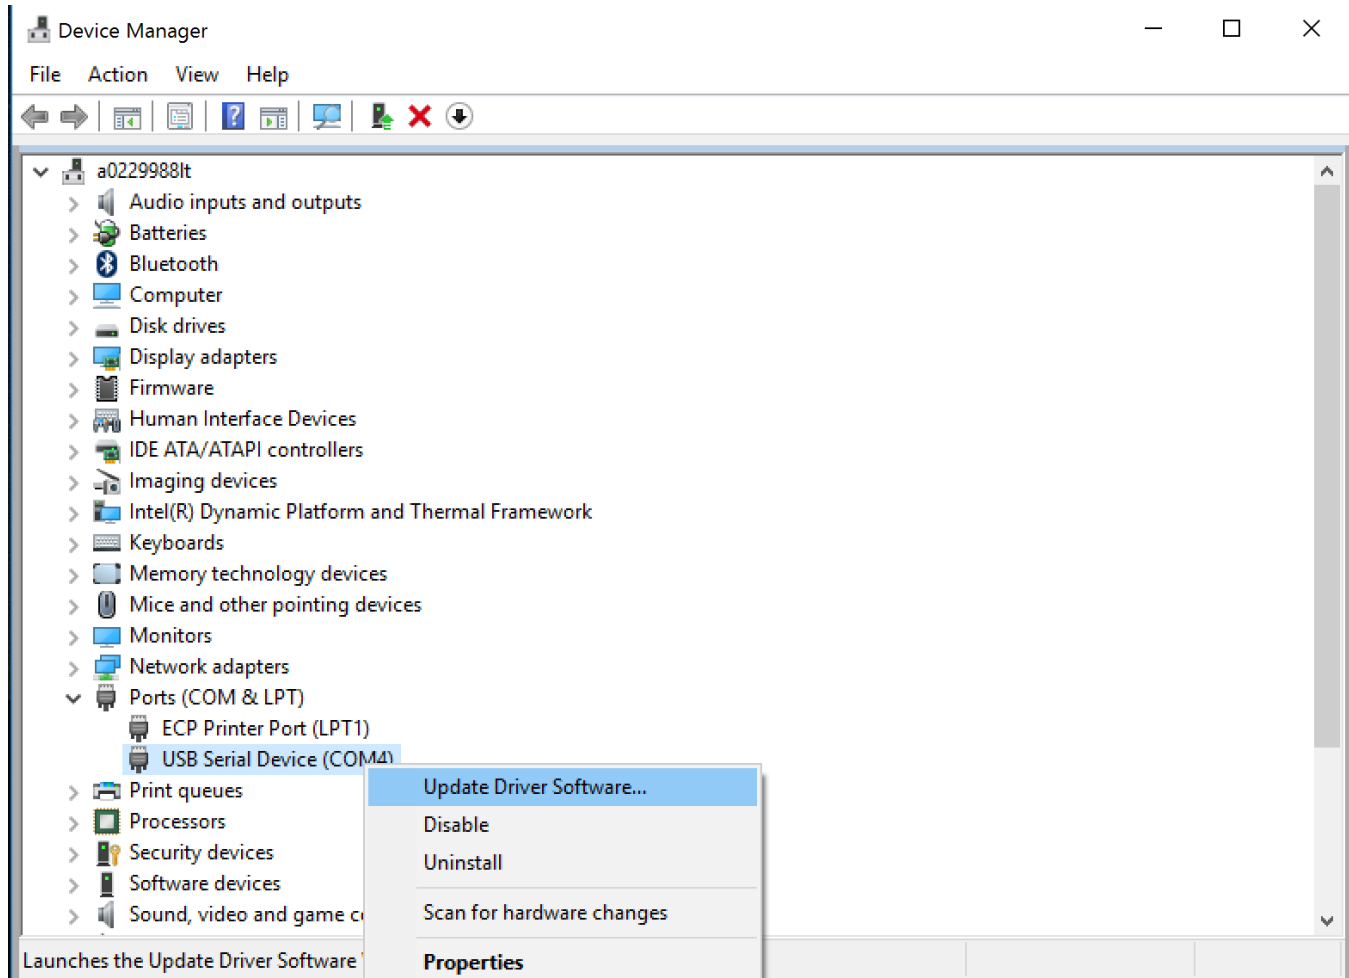

Figure 28. USB Driver Installation – Screen 1 (Windows® 10 OS only)
2. Open the *Device Manager*, right click on the USB Serial Device (COMx) under the Ports (COM and LPT) and click on *Update Driver Software* as shown in Figure 28.